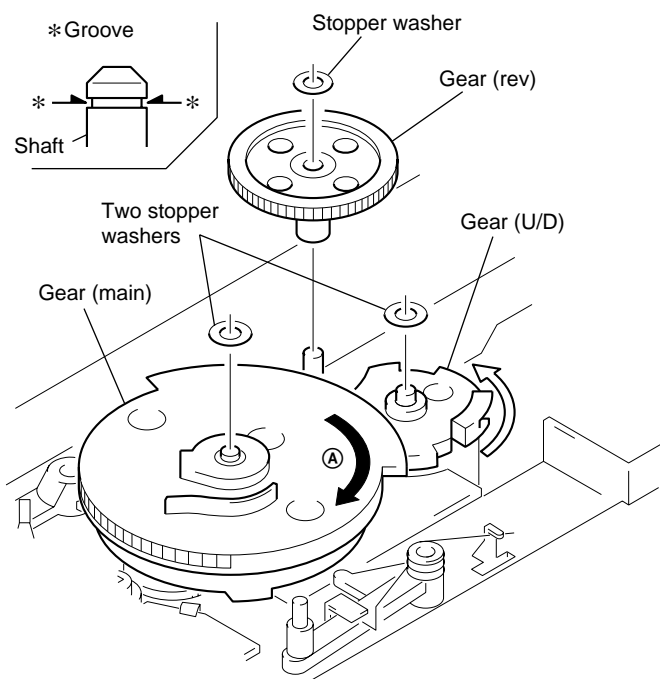

Fig. 6
- 8) Rotate the gear (main) in the direction of arrow **A** by 90° turn. (Gear (U/D) is up position.) (See Fig. 6.)
- 9) Mount the Gear (rev). (See Fig. 6.)
- 10) Fix three stopper washers on the groove of shafts. (See Fig. 6.)